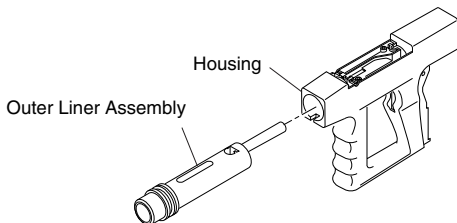

Figure 14 - Inserting Outer Liner Assembly
1. Firmly push outer liner assembly into housing (see Figure 14).